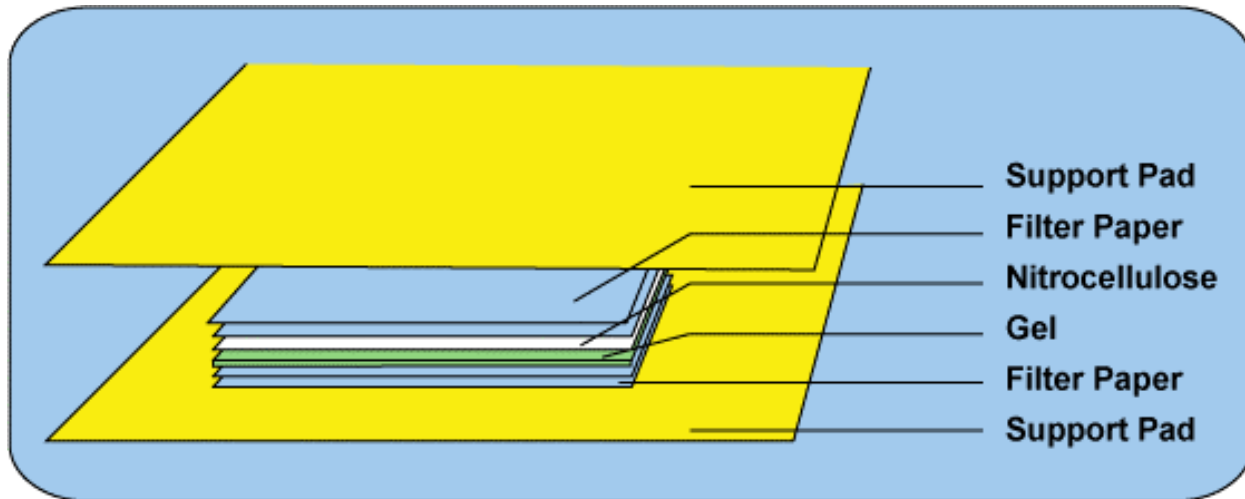

Figure 5.4. Arrangement of the gel, blot, filter paper and support pads for electrophoretic transfer of proteins for a Western Blot.
5. Assemble the transfer sandwich so that the membrane is in direct contact with the gel, making sure there are no air bubbles trapped between the gel and the nitrocellulose. Keep all the components wet and make sure the sandwich is tightly assembled. The assembly is shown in Figure 5.4